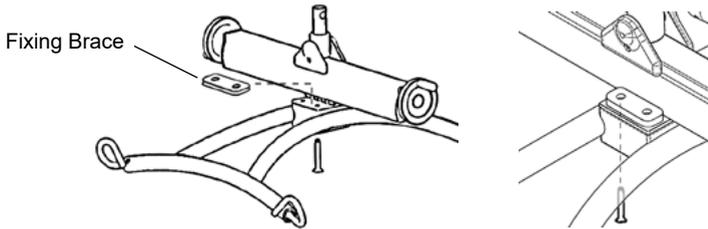

Fig. 8
3. Align the fixing brace as shown (See Fig. 8). Insert bolt through attachment cradle and stretcher adjustment and screw into one of the threaded holes on the fixing brace.